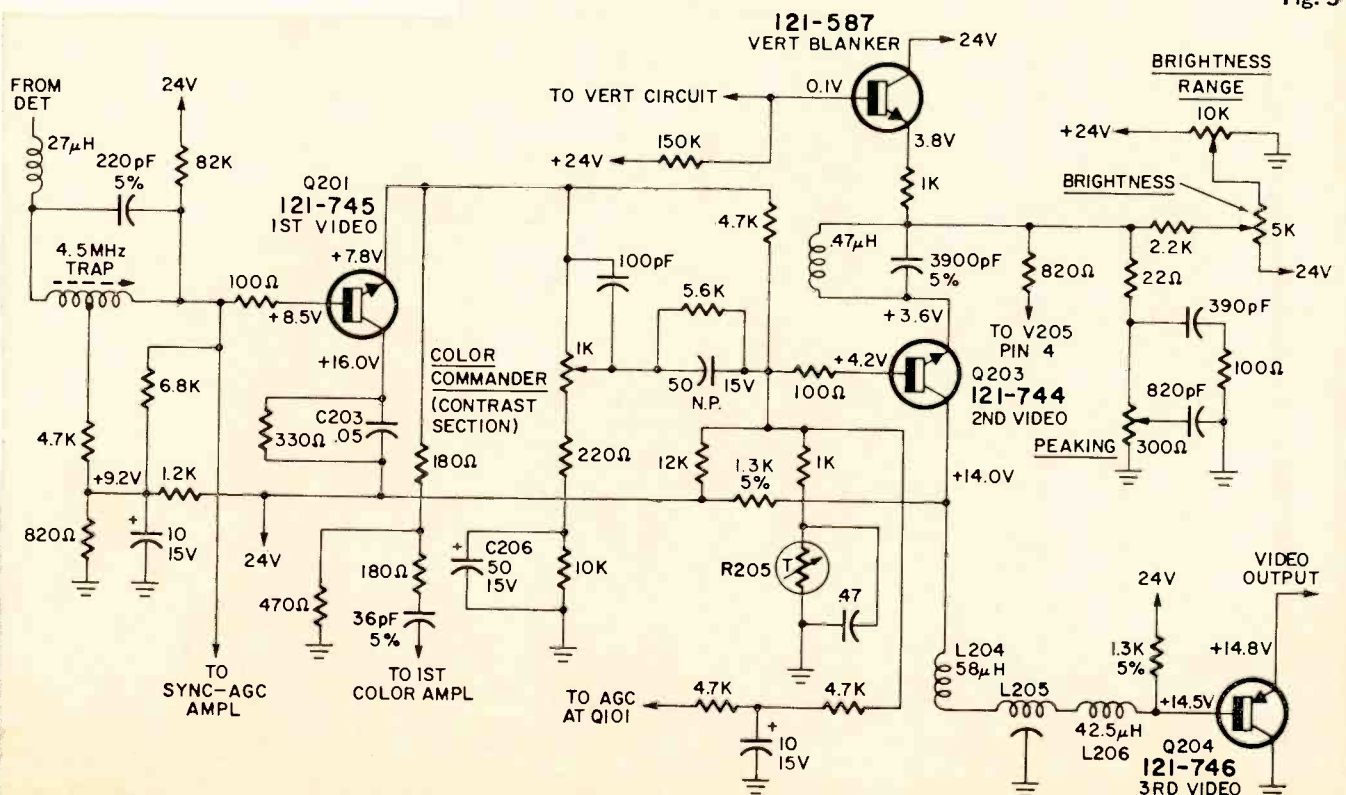

Fig. 5
now uses three transistor stages to process the composite video (Y) signals (Fig. 5). Composite video is coupled through a 4.5-MHz trap to the base of the first video amplifier Q201, an emitter follower.